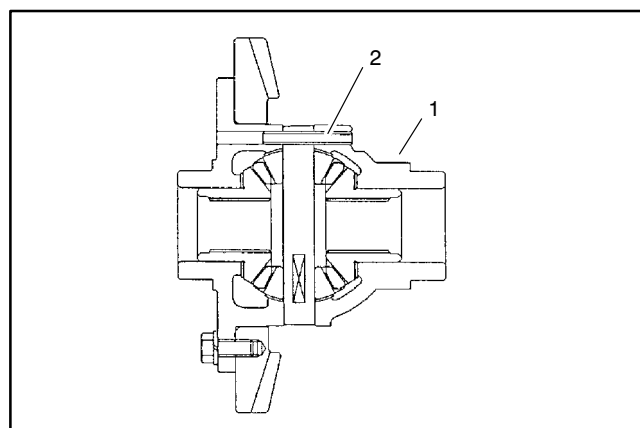

Figure 21
6. Drive the spring pin from the differential case with a punch and hammer. Discard the spring pin (Fig. 21).